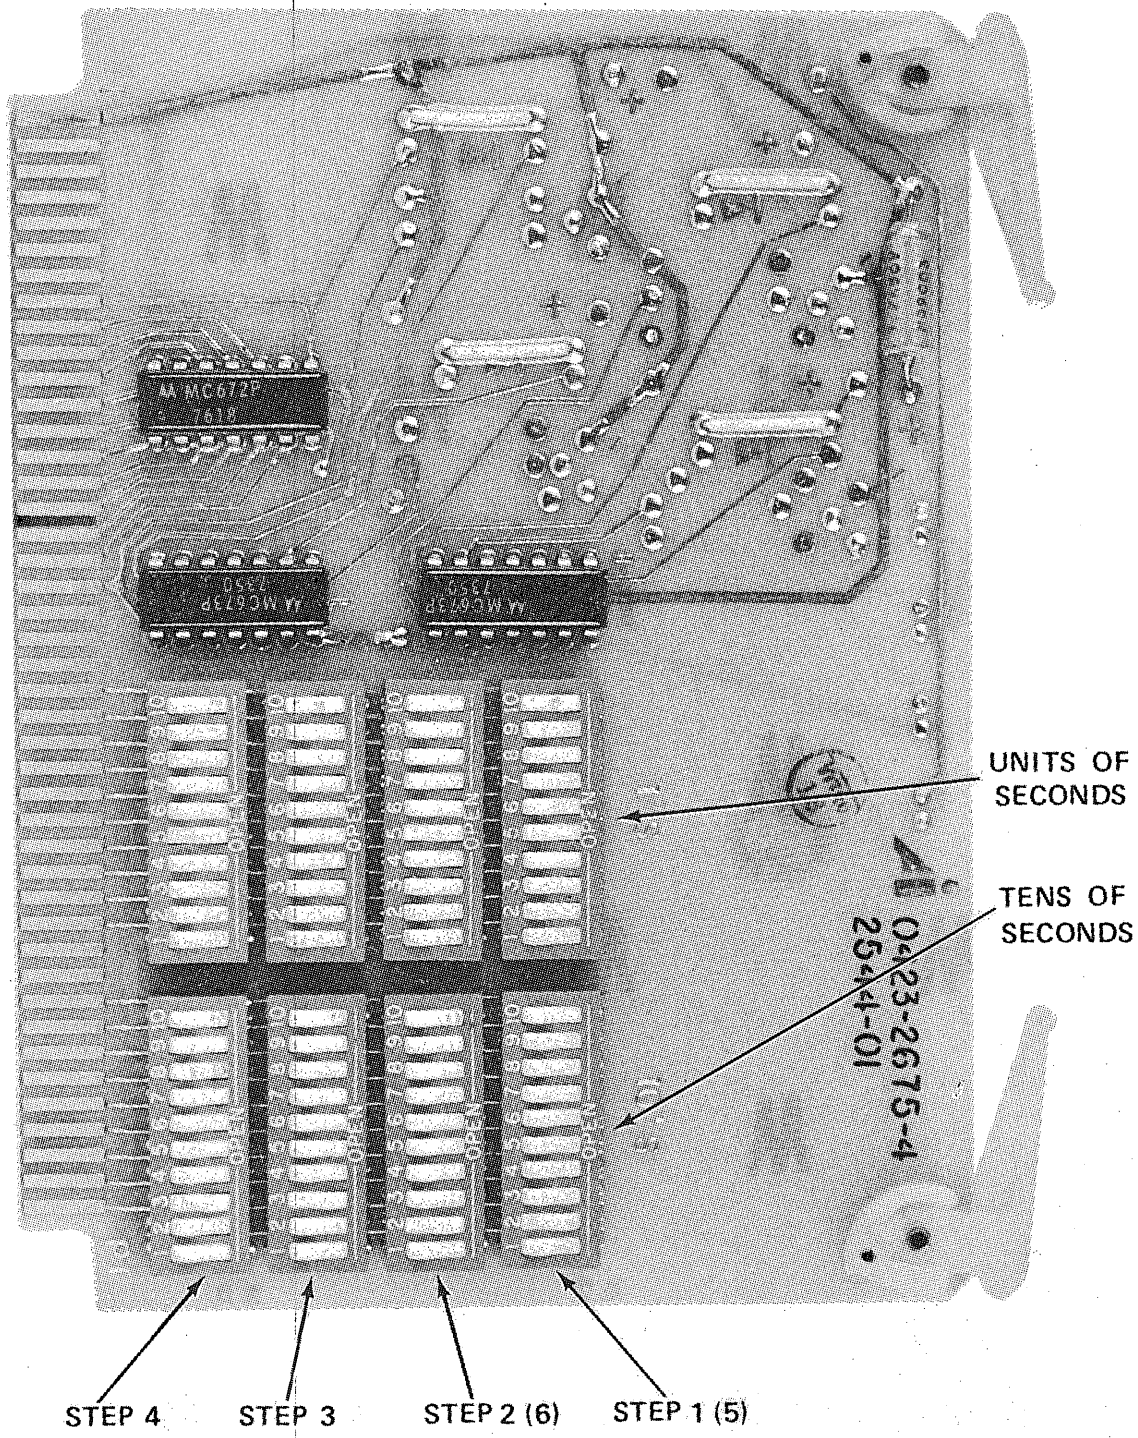

Figure 7. Step Card
- a. Step Card No. 3 (figure 7)
7.3.1 SEQUENCER STEPS. All time delay adjustments for the maintained sequencer steps are located on a Step Card No. 3 PC card. Figure 7 shows the location of all adjustments on this card. To make the desired time delay adjustments, follow the procedures below: